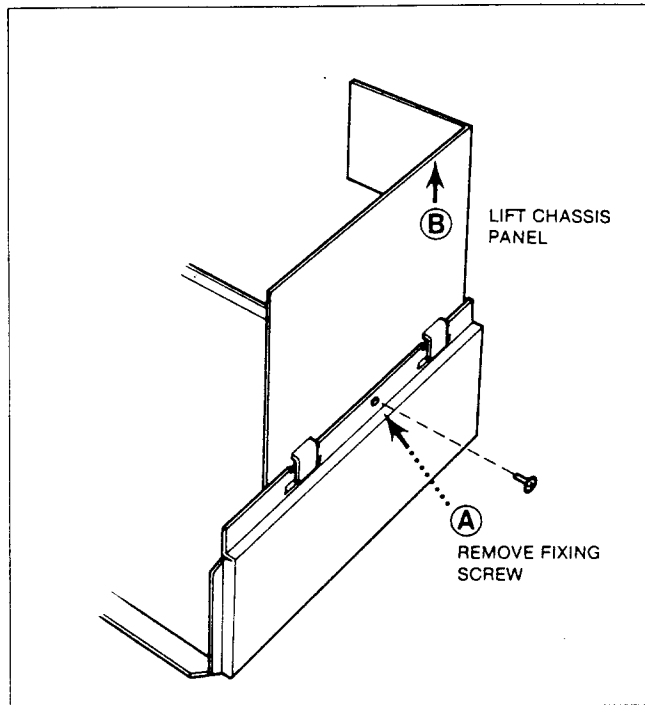

FIG N2 N SERIES FIXED POSITION
#### *SERVICE ACCESS (Figures N2, N3)*
The side PCBs may be tilted to service Access positions as shown in Figs N2, N3.
2. Lift the panel (B) (Fig N2).